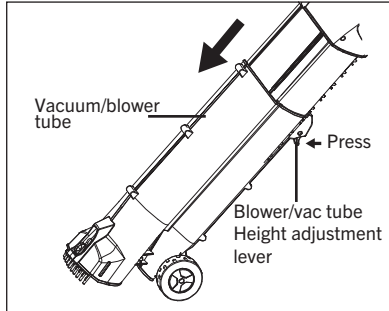

FIG. 6
1. Press the blower/vac tube height adjustment lever and slide the vacuum/ blower tube up or down to desired length (Fig. 6).